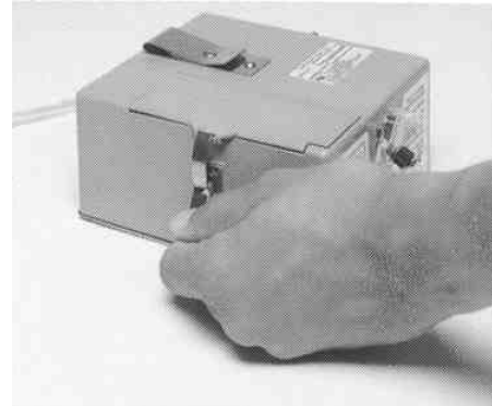

Figure X-9. Removing the battery cover
Step 1. Open the latch clip and remove the battery cover (fig. X-9).